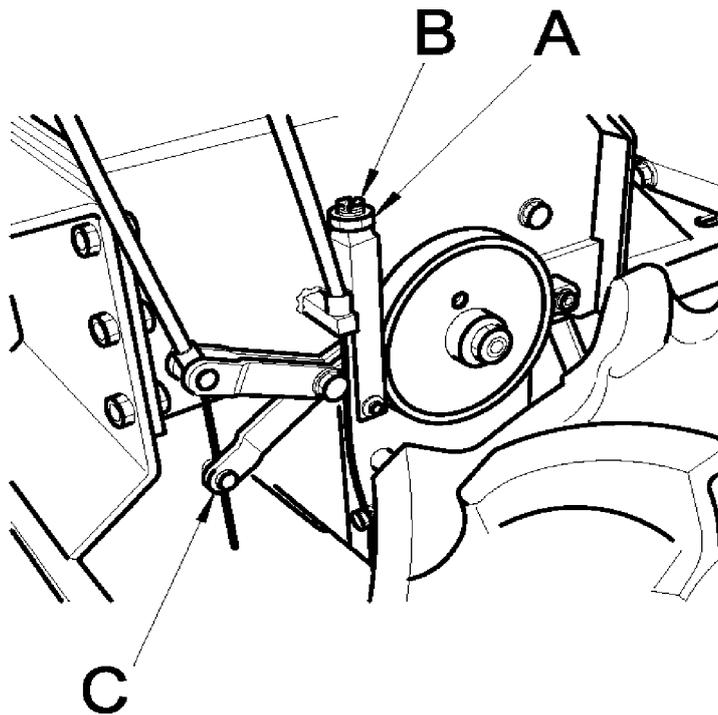

Figure 8
- using the brake cable clamp (Fig.8 Ref.C).
- Loosen the M12 nut (Fig. 8 Ref.A)
- Tighten the M12 screw (Fig. 8 Rif.C) until the machine halts instantly when the forward clutch lever (Fig 1, Ref. A) is released.